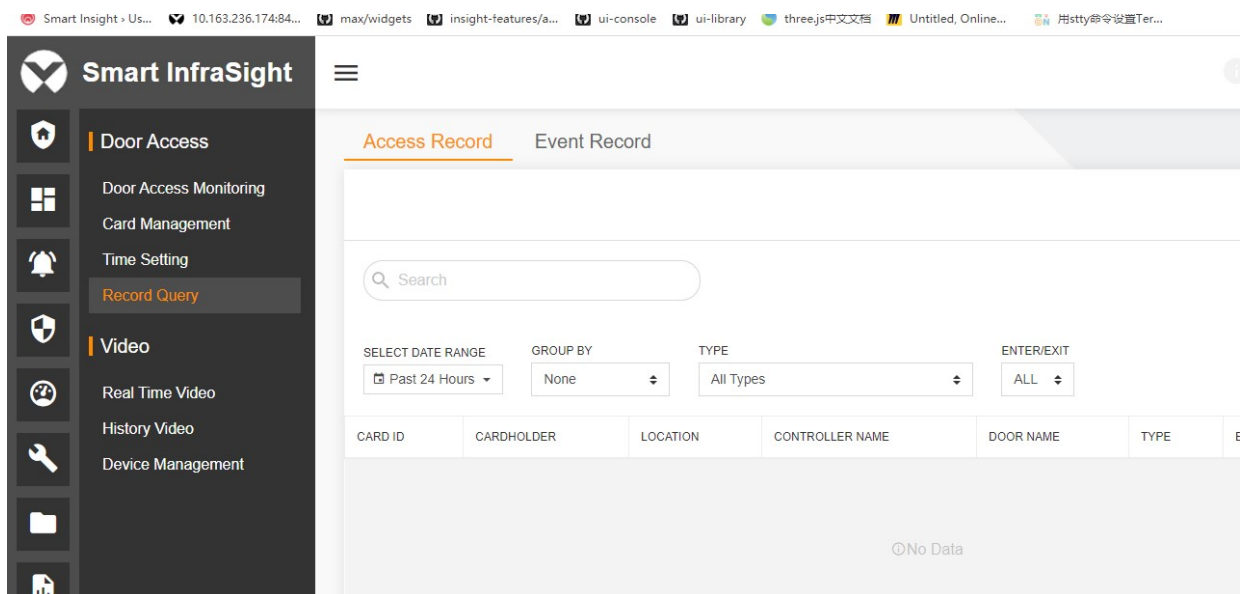

Figure 13-50 Access Record - Filter
4. Click  in the upper right corner of the list. The system displays the filter conditions. The filter conditions include **SELECT DATE RANGE**, **GROUP BY**, **TYPE**, and **ENTER/EXIT**. Figure 13-50 shows the results filtered by setting **SELECT DATE RANGE** to **All** and **GROUP BY** to **Type**.